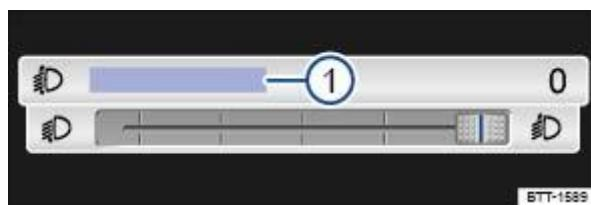

Fig. 82 In the Infotainment system: slider for headlight range control.
With some equipment levels, the headlight range can be adjusted with the slider in the Infotainment system ⇒ Fig. 82 .
Touch the Headlight range control ⇒ Fig. 82 ① function button.